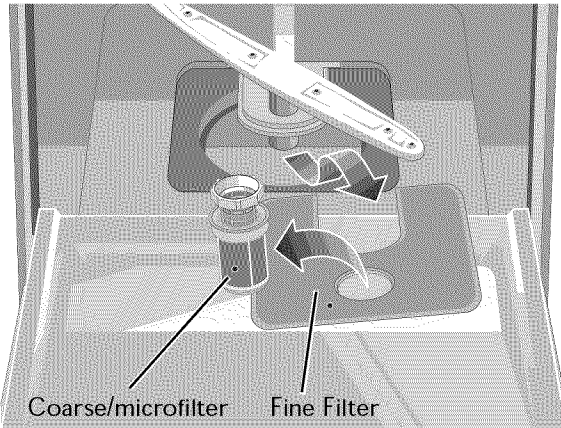

Figure 16. Filter System
- The filters should be checked on a weekly basis. To remove the filters, turn the knurled ring handle of the coarse/microfilter 1/4 turn counter-clockwise, see **Figure 16**, and lift out the coarse/microfilter. After removing the coarse/microfilter the fine filter can also be lifted out for inspection. Examine the filters. If large solids, such as bones, or large seed(s) are present, remove the filters and dispose of the large solids by emptying into a waste basket. If any other items have been trapped by the filters, paper labels for example, these should also be removed while you have the filters out of the dishwasher. These smaller items can usually be flushed out under running water or with a soft brush. Remove any food residue lodged under edge of fine filter and on recessed areas of tank.